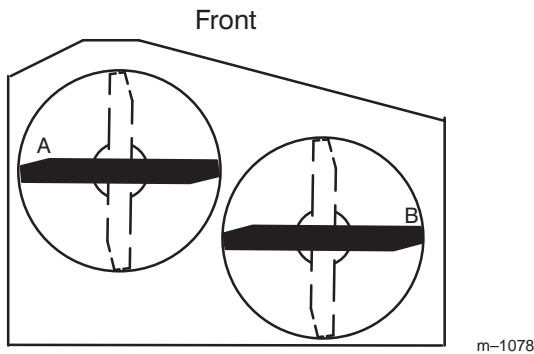
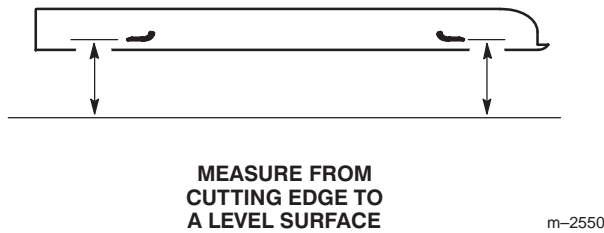

Figure 52
Figure 53
2. Position the blades side-to-side (Fig. 52). Measure at "A" and "B" locations (Fig. 52) from a level surface to the cutting edge of blade tips (Fig. 53).